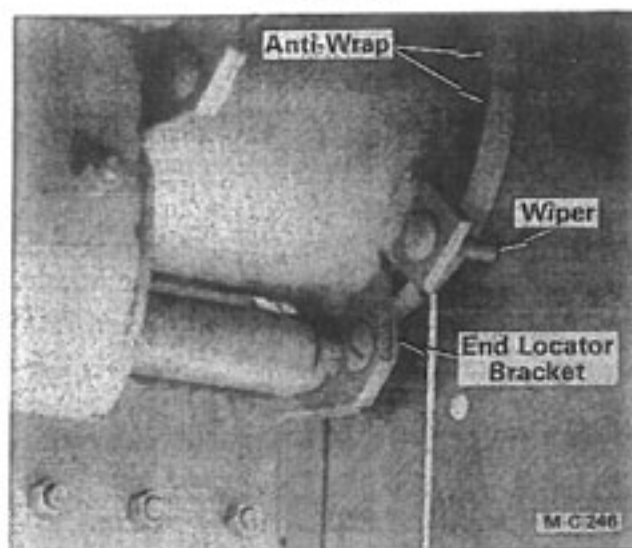

Figure 41
5. Check the position of the two wipers (180° apart) at the end of the rotor, see Figure 41. They should be as close to the anti-wrap as possible without touching it. The wiper prevents material from building up on the anti-wrap. If necessary, loosen the wiper locknut and reposition the wiper in the adjusting slot.
7. Check the position of the two wipers (180° apart) at the end of the rotor, see Figure 41. They should be as close to the anti-wrap as possible without touching it. The wiper prevents material from building up on the anti-wrap. If necessary, loosen the wiper locknut and reposition the wiper in the adjusting slot.